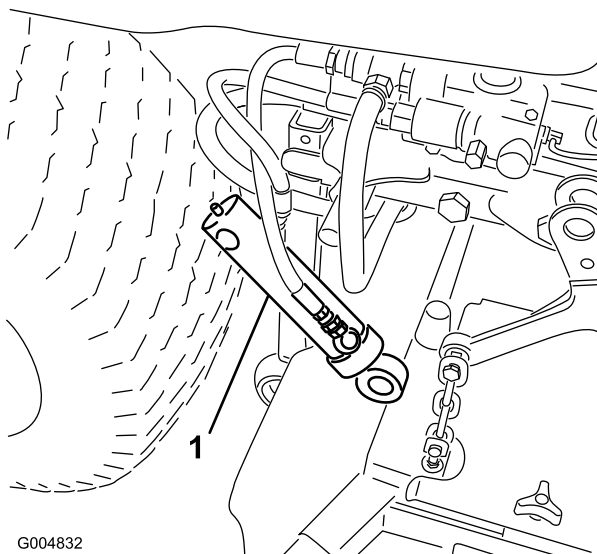

Figure 37
7. Remove the front pivot pin and slide the cylinder off the rear pin Figure 36 Let the cylinder hang out of the way on the hoses (Figure 37).